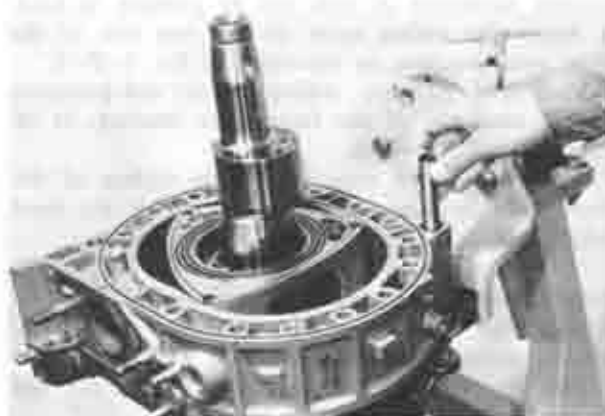

Fig. 1-65 Installing tubular dowel
4. Apply engine oil onto the tubular dowels and insert the tubular dowels through the front rotor housing holes into the front housing holes, as shown in Fig. 1-65.